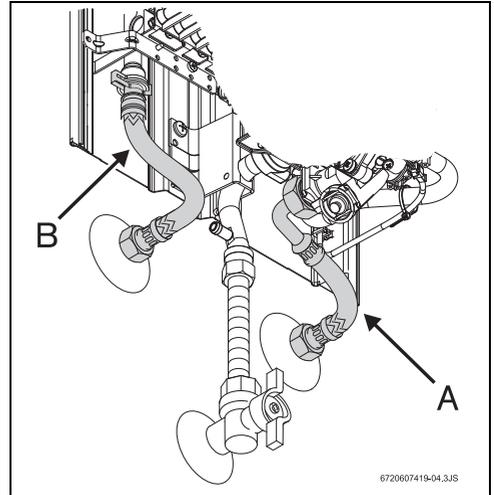

Fig. 11 Water connection
- ▶ Identify the cold water pipe (Fig. 11, [A]) and the hot water pipe (Fig. 11, [B]), so as to avoid any possible mis-connection.